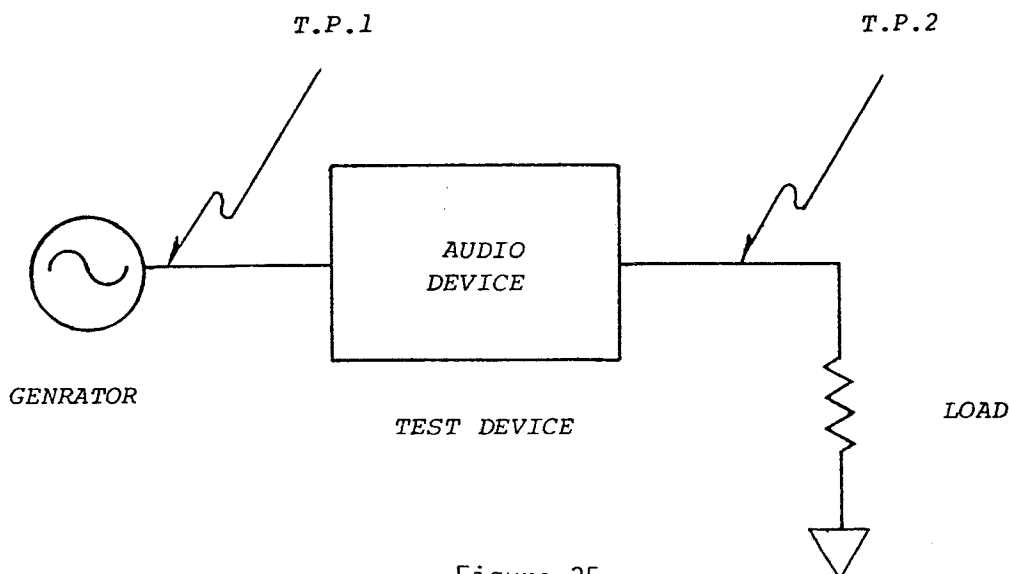

Figure 35
1. Set up the equipment as shown in Fig.35 below.